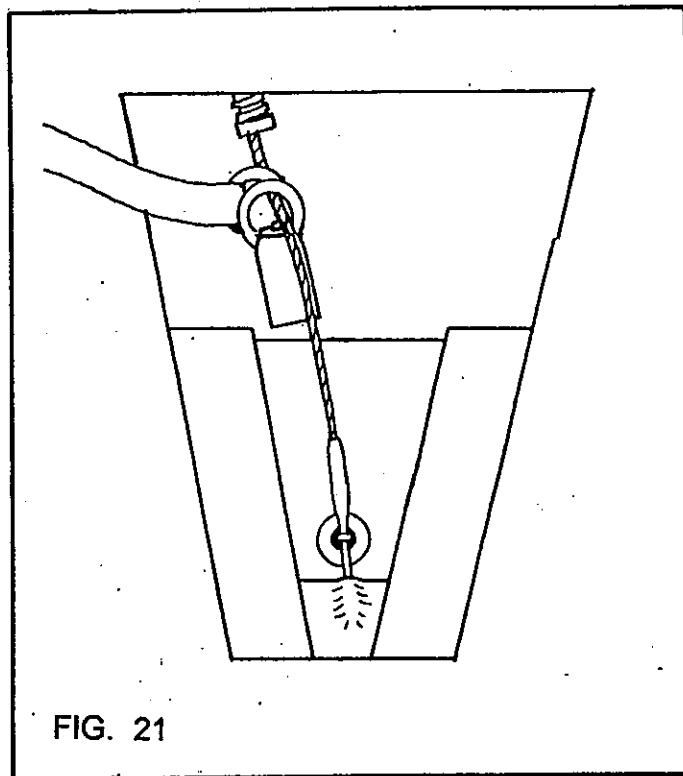
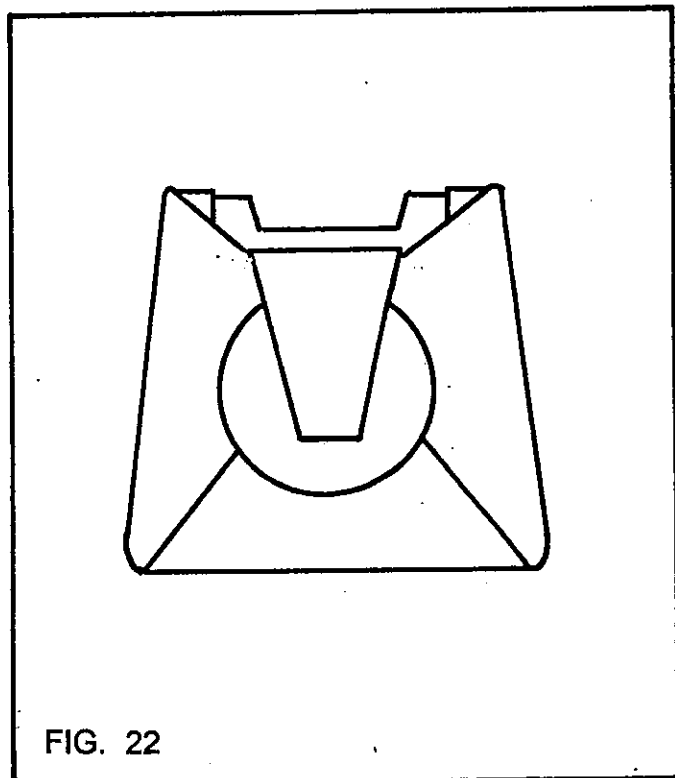

FIG. 21
FIG. 22
12) Thread the pullup cord thru the grommet in the reserve top flap, remove the temporary pin, then pull the closing loop up thru the grommet and secure it with the actual ripcord. Insert the end of the ripcord pin into its protective pocket as shown in FIG. 21. Now check to see that there is a minimum of 2" or a maximum of 4" of extra ripcord cable at the handle. (This helps prevent an accidental activation of the reserve if the wearer bends forward, or if a hard opening stretches the harness.)
14) Close the reserve pin cover, routing the RSL out the upper left corner. Any slack in the RSL may now be stowed by tucking it down into the top of the reserve container or by tucking it back under the reserve top flap. The reserve container should now resemble FIG. 22.
20) Using one or two fingers, push the bridle into the pouch a little at a time until none of the bridle is exposed. Then stuff the rolled pilot chute into the pouch until only the handle is visible at the mouth of the pouch. FIG. 21 shows the pilot chute in the pouch on the right legstrap; FIG. 22 shows the pilot chute in the pouch on the bottom of the container. *Do not push the handle all the way into the pouch; that makes it difficult to find when you need it.*